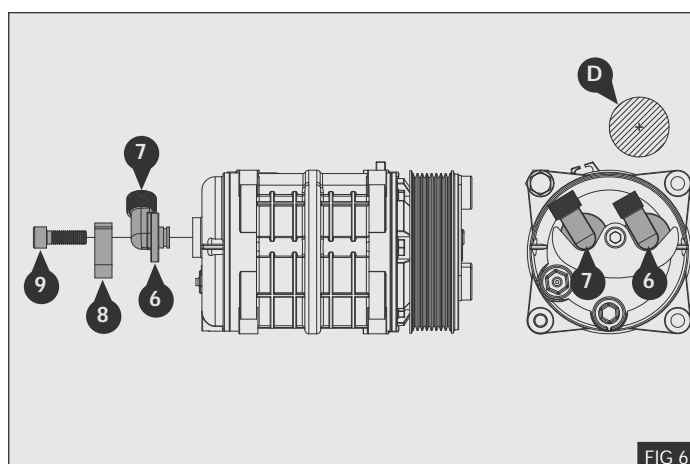

FIG 6
1. Fit the compressor fittings ⑥ and ⑦ to the compressor using the clamp ⑧ and bolt ⑨ - Fig 6
Note: Position the discharge fitting ⑥ and suction fitting ⑦ as shown to avoid contact with the gear linkage ① - Fig 6.